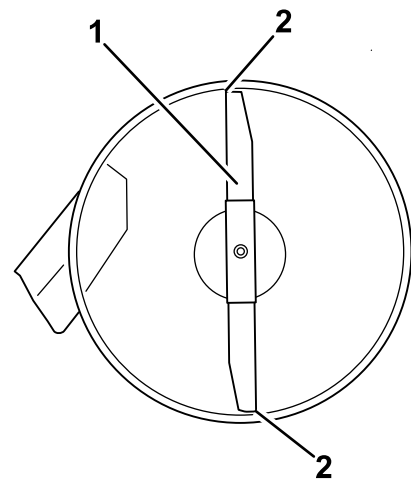
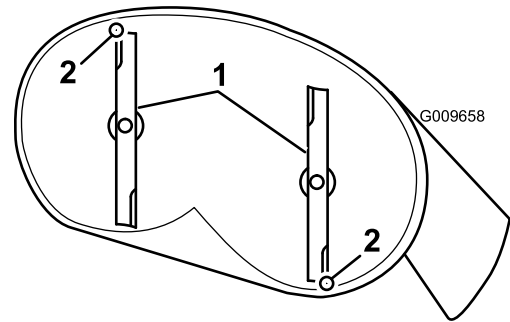

Figure 60
Figure 61
4. Carefully rotate the blades so they are facing front to rear (Figure 60 and Figure 61).
5. Measure from the tip of the front blade to the flat surface and the tip of the rear blade to the flat surface (Figure 60).
- 9. After adjustment, check the front-to-rear slope again, continue adjusting the nut until the front blade tip is 1.6 to 7.9 mm (1/16 to 5/16 inch) lower than the rear blade tip (Figure 60).